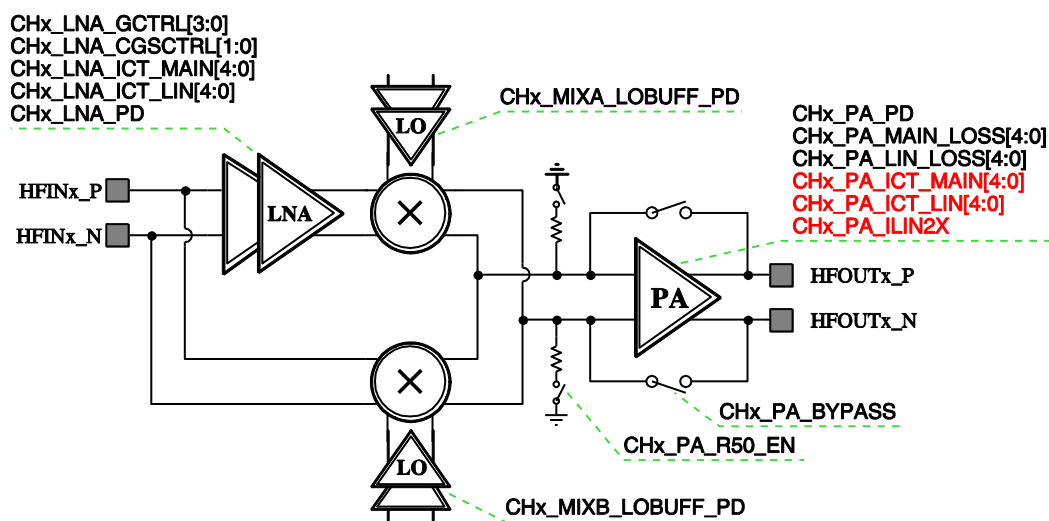
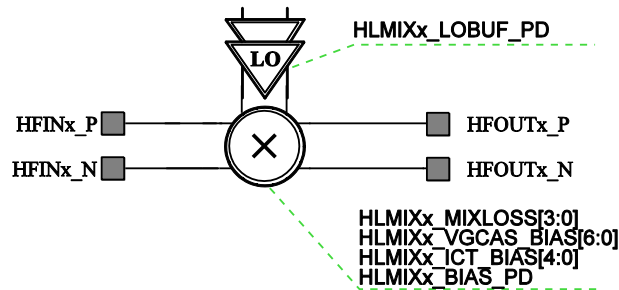

Figure 7.1: RF Channel – LMS8001A
Figure 7.3: High-Linearity Mixer (HLMIX) – LMS8001B
There are two options of LMS8001. The difference is in the architecture of the RF channels. Option LMS8001A contains RF channels with LNA, two mixers and power amplifier (Figure 7.1), whereas LMS8001B channel is comprised of high-linearity mixer (HLMIX) only (Figure 7.3).
Structure of Channel\_x (x=A,B,C,D) is shown in Figure 7.1. Input RF signal can be amplified by LNA and mixed by MIXA or can be directly fed to mixer MIXB. At mixer output there is a programmable 50  $\Omega$  termination resistor, which can be switched on or off. Power amplifier (PA) can be used to further amplify the signal, or can be powered down and bypassed.
Structure of HLMIXx (x=A,B,C,D) is shown in Figure 7.3.